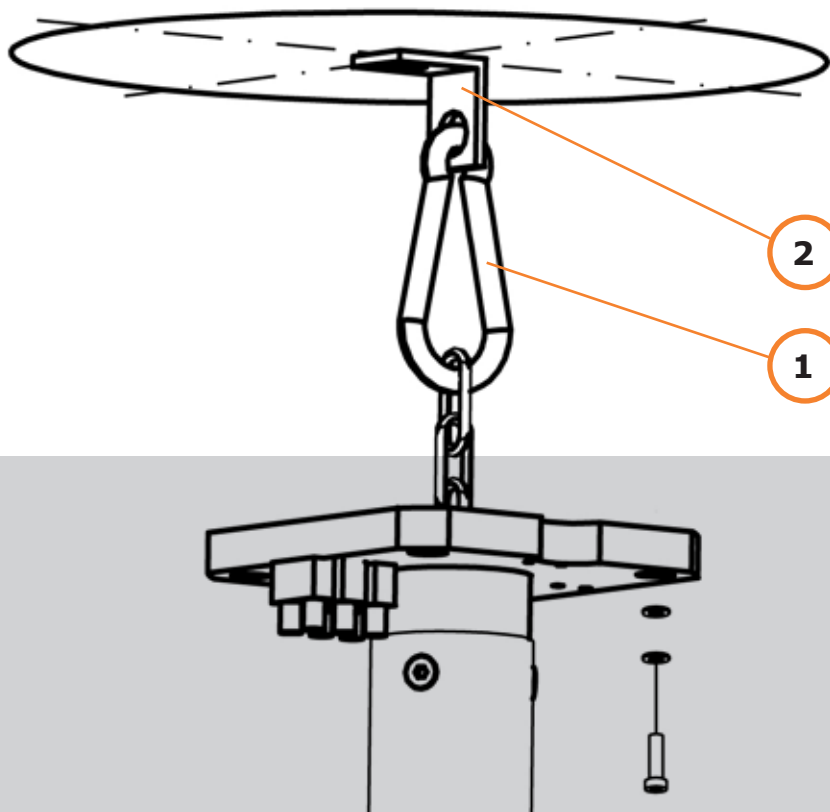

Fig. 14
NOTE: Secure the chain with the attached safety latch (1/Fig. 14) to prevent it from falling into the column tube.
6.1.1 Fix the safety anchor (2/Fig. 14) to the ceiling using the installation hardware specified by the structural engineer.
6.1.2 Push up the column and engage the safety latch (1/Fig. 14) into the safety anchor (2/Fig. 14).
6.1.3 Once the chain is engaged into the safety anchor (2/Fig. 14), push up the ceiling column slightly and rotate the safety latch (1/Fig. 14), to assure the small diameter of the safety latch being hooked into the safety anchor.